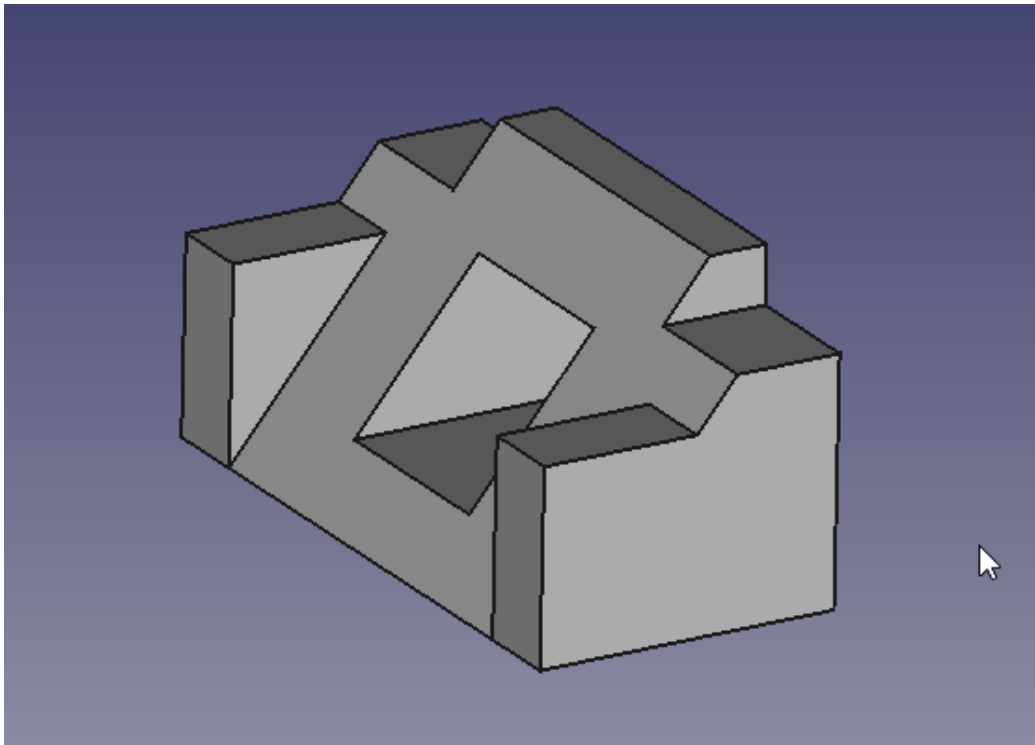

Figure 44 – The final model of the part
1. Create the final model of the part (Figure 44);